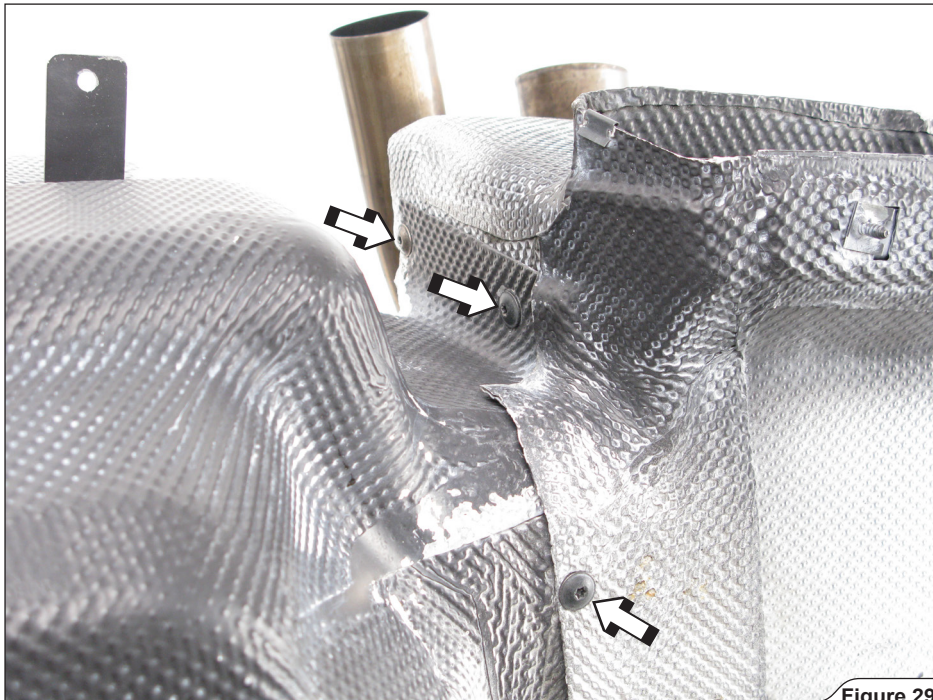

Figure 29
21. Unscrew the marked bolts on both sides of the muffler and carefully remove the side parts of the muffler's heat shield (Figure 29, 30).